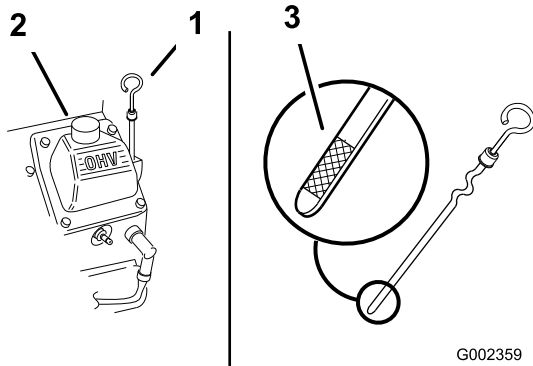

Figure 23
3. Clean around the oil dipstick (Figure 23) so that dirt cannot fall into the filler hole and damage the engine.
4. Unscrew the oil dipstick and wipe the end clean (Figure 23).
5. Slide the oil dipstick fully into the filler tube, but do not thread onto tube (Figure 23).
6. Slowly pour approximately 80% of the specified oil into the filler tube (Figure 23).